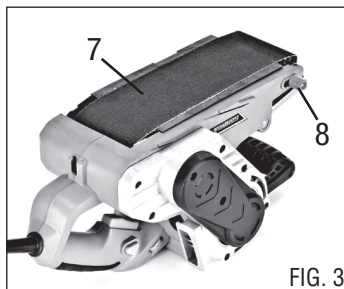

FIG. 3
ADJUSTING BELT TRACKING (FIG 3)
2. Place the tool upside down with sanding belt up, as shown in FIG 3.
3. Hold the tool firmly with your left hand, depress the switch trigger and watch how the belt (7) is tracking.
4. If the belt is running outward, slowly rotate the tracking knob (8) forward (clockwise) until the outer belt edge is aligned with the outer edge of the platen. If the belt is running inward, slowly rotate the tracking knob backward (counterclockwise) until the outer belt edge is aligned with the outer edge of the platen.